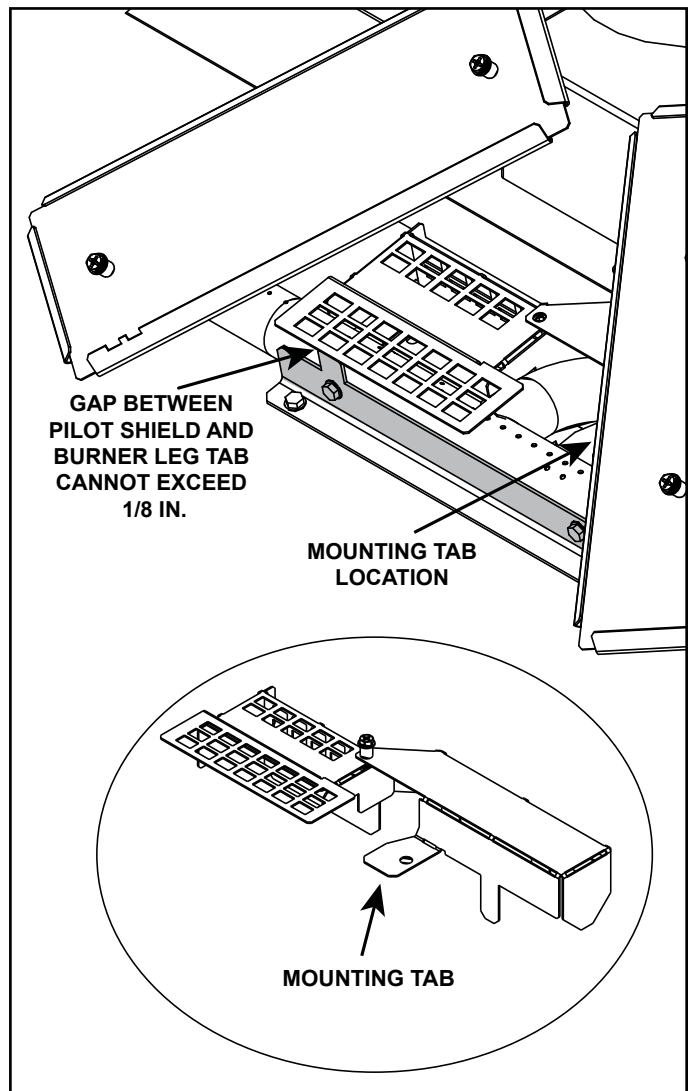

Figure 21 Gap Between Pilot Shield and Burner Leg Tab
- The gap between the pilot shield and the burner leg tab must be 1/8 inch or less. Bend the mounting tab to adjust the gap. See Figure 21.